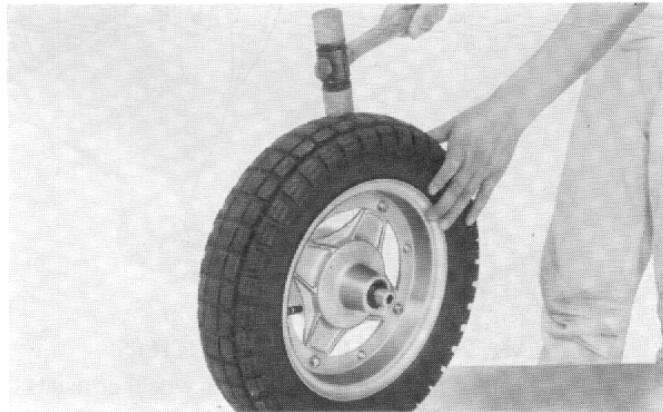

Fig. 80
- (1) After reassembly of the tire, fill the tire with air to about 1/3 of the specified pressure and tap the tire all around with a soft faced hammer to eliminate any tube twist or pinching. (Fig. 80)